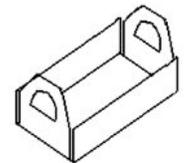

Fig. 6.2: Fold up large guides as shown.
- 6.1.1. First you will need to fold up the four sides of the ten longer Flexinol® guides, so it's like a tiny tray with handles on two sides as shown in Figure 6.2.